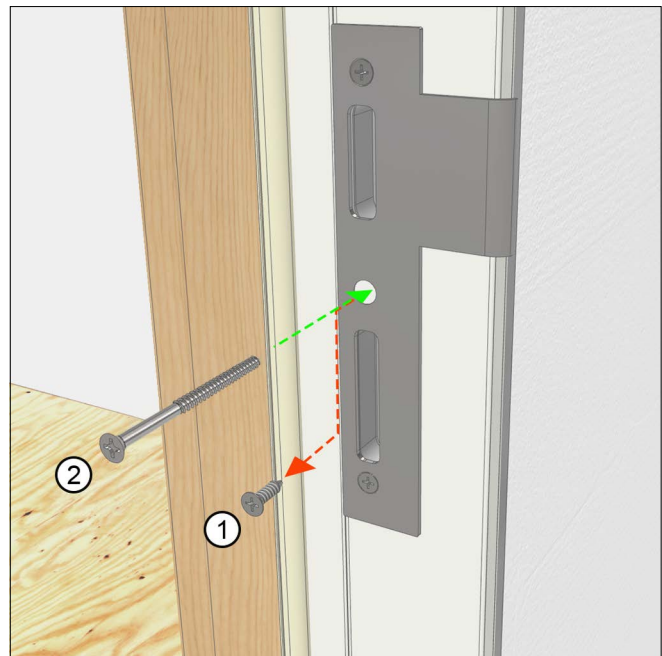

Figure 5
2. On OXR/XOL, and X configurations, replace the center screw on the locking jamb with a #8 X 2-1/2" stainless steel screw and shim. See Figure 5.